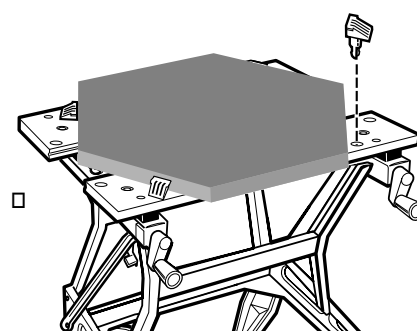

FIG. 10
- The four supplied swivel pegs can be used in any of the holes in the front and rear jaws. The pegs are used in any of the holes in the front and rear jaws. The pegs are used to extend the dimensions of your Workmate's holding capacity. (Figure 10)
1. Les quatre mordaches orientables comprises peuvent être utilisées dans l'un des trous des mâchoires arrière et avant. Les mordaches servent à prolonger la capacité de serrage du centre de projets. (fig. 10)